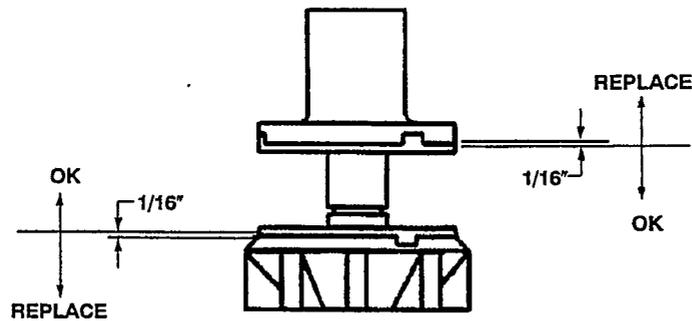

FIGURE 11. UPPER NUT AND BEARING ASSEMBLY
7. Check white upper bearings on auger assembly. If bearings are less than 1/16" thick, replace. See Figure 11